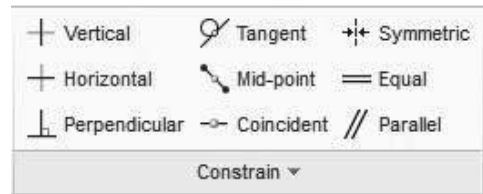

Figure 3-53 Constraint Tools
Step 10: If any of the H, V, or L's are missing from your sketch, they can be added using the *constraint* tools found on top of the screen (Figure 3-53). If there are extra L's or other symbols, they can be erased by *selecting* them with the LMB, then pressing the <Delete> key.